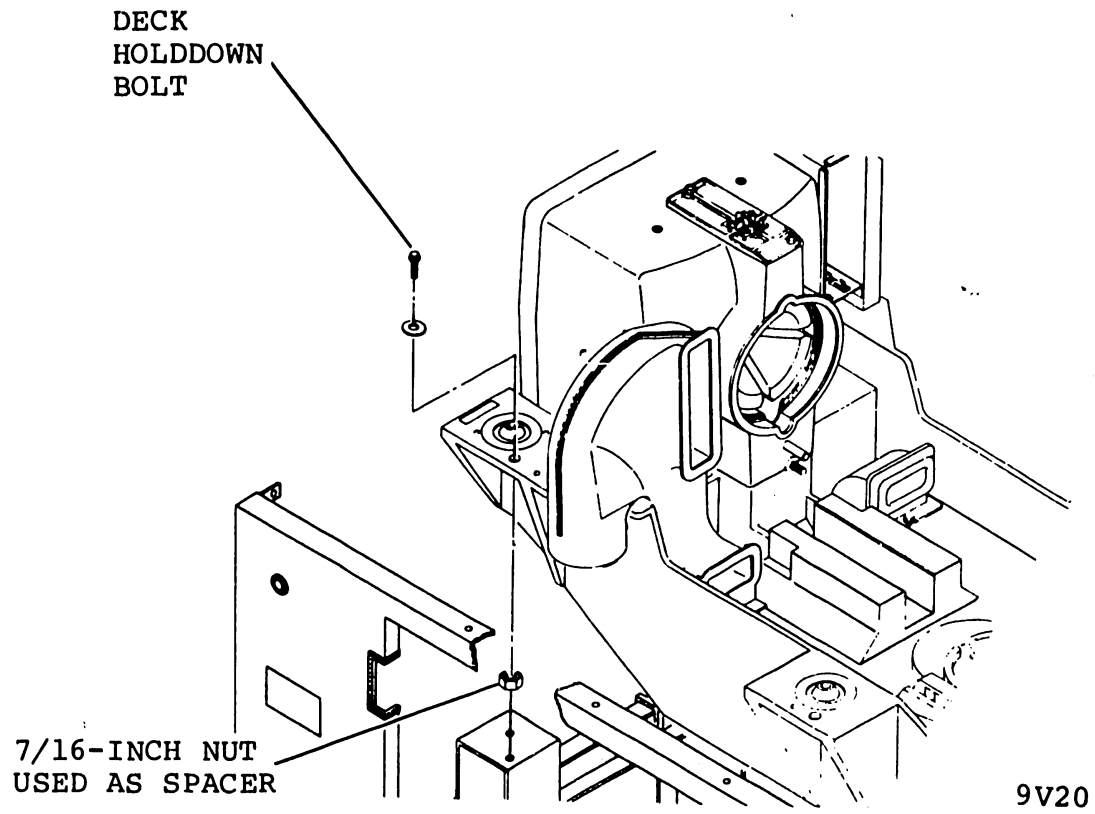

Figure 1-6. Deck Hold-Down Bolt Removal
4. Four bolts secure the deck to the frame during shipment. These bolts are located next to the vibration mounts as shown in figure 1-6. A removal instruction tag identifies each bolt.